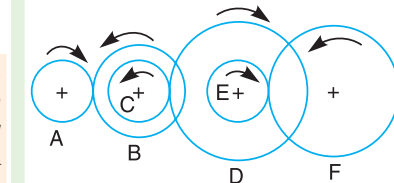

Fig. 13.3
**Example 13.1.** The gearing of a machine tool is shown in Fig. 13.3. The motor shaft is connected to gear A and rotates at 975 r.p.m. The gear wheels B, C, D and E are fixed to parallel shafts rotating together. The final gear F is fixed on the output shaft. What is the speed of gear F? The number of teeth on each gear are as given below :
From Fig. 13.3, we see that gears A, C and E are drivers while the gears B, D and F are driven or followers. Let the gear A rotates in clockwise direction. Since the gears B and C are mounted on the same shaft, therefore it is a compound gear and the direction or rotation of both these gears is same (i.e. anticlockwise). Similarly, the gears D and E are mounted on the same shaft, therefore it is also a compound gear and the direction of rotation of both these gears is same (i.e. clockwise). The gear F will rotate in anticlockwise direction.